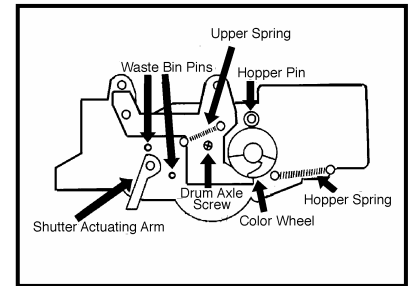

Figure 1
2. Remove the shutter actuating arm (Fig. 1).
3. Remove the color wheel (wiggling up, down and out- Fig. 1).
4. Remove the upper shutter spring (small one) and the hopper spring (Fig. 1).
5. Remove the two pins holding the waste bin in place (Fig. 1): first remove the screw that holds the drum axle in place, then the drum axle itself. To do this, you must hold the upper shutterbar flat to get the axle out, then remove the large pin holding the hopper in place.